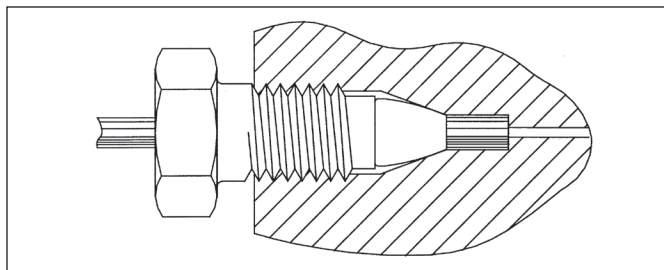

Figure 1. Proper Tubing Column Connection.
3. Finger-tighten the fitting, then tighten with a wrench by another turn using the flats machined into the column end nut. Do not use a wrench on the column tubing. Figure 1 shows a proper tubing-to-column connection.
In a proper tubing/column connection (Figure 1), the tubing touches the bottom of the column endfitting, with no void between them.